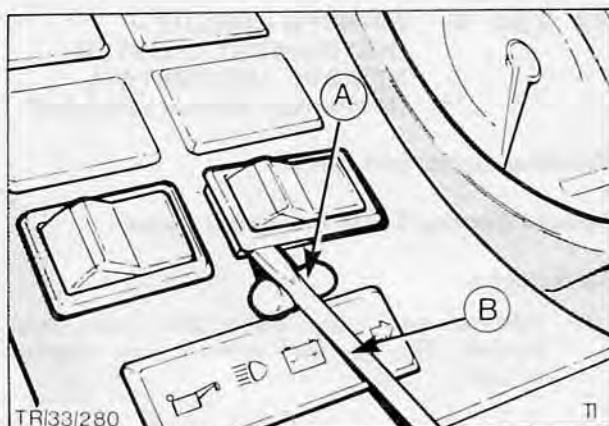

Fig. 52. Removing switch
3. Using a small electrical screwdriver, pivoting on protective material, prise switch from its bezel location, Fig. 52.